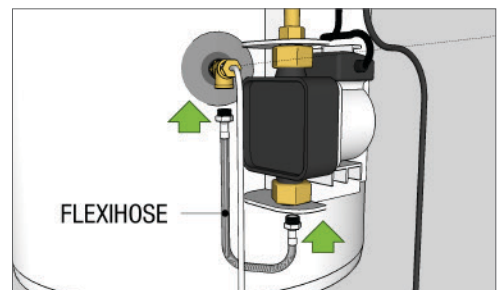

Fig 5
4. Connect the flexihose from the pump assembly to the brass tee at the cold flow tank connection (Fig 5)